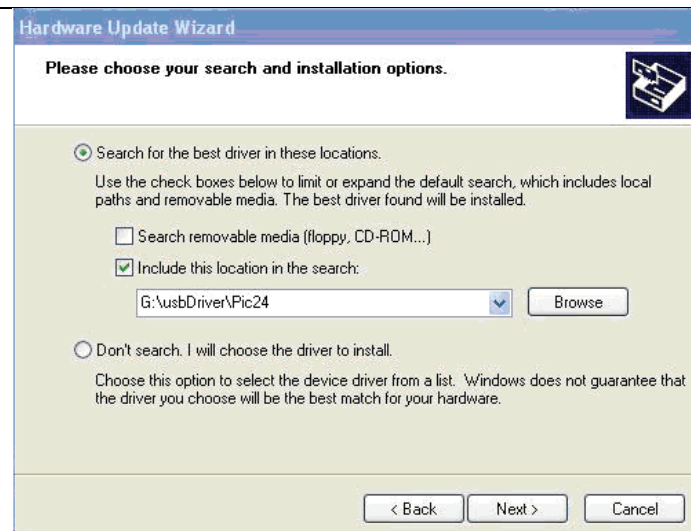

Figure 2-13
(3) Be sure to save the installation file to the specified folder as the path “G:\subDriver\Pic24”, refer to fig.2-13.
User also can install the driver of STM32 by clicking the “Browse” button in Figure 2-13, select the folder as shown in Figure 2-14.